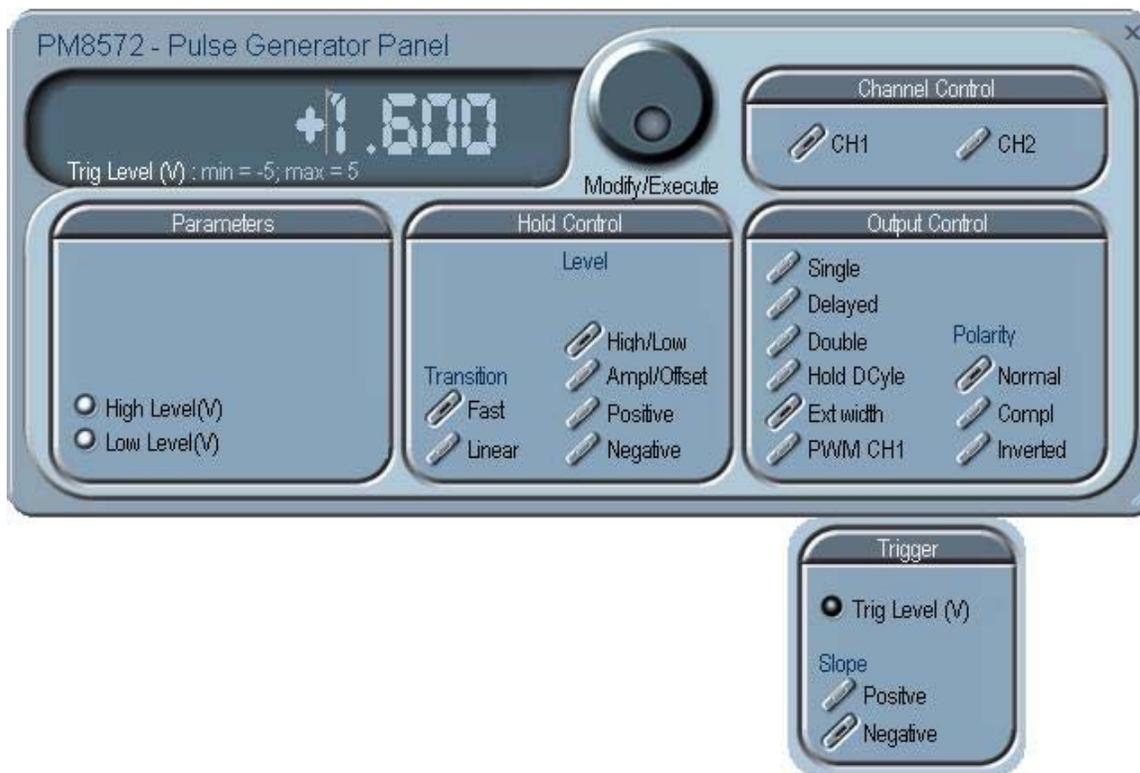

Figure 4-7, External Width Control Parameters
**External Width** – unlike any of the other pulse modes, the pulse is regenerated from an external input and by setting the trigger level and the trigger slope at the trigger input connector. Every time the external signal is crossing the trigger level threshold, the output generates pulse high level, or pulse low level, depending on the trigger slope selection. When you select the external width mode, the panel, as shown in Figure 4-7 appears, allowing modification of the trigger level and the trigger slope. Notice that the period and